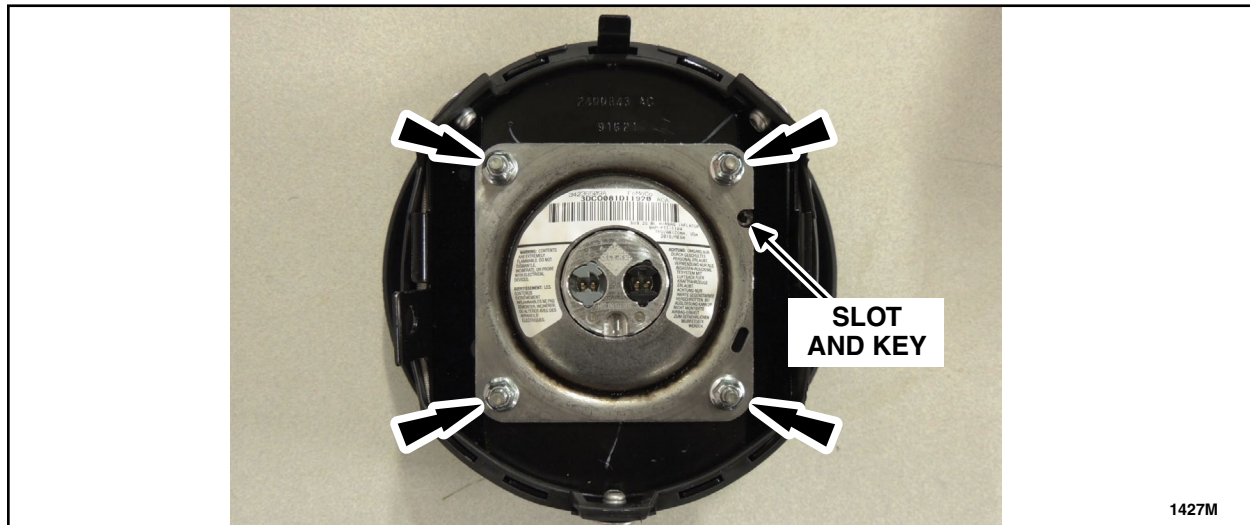

FIGURE 2
6. Record the 13 character serial number of the new airbag inflator on the repair order. See Figure 2.